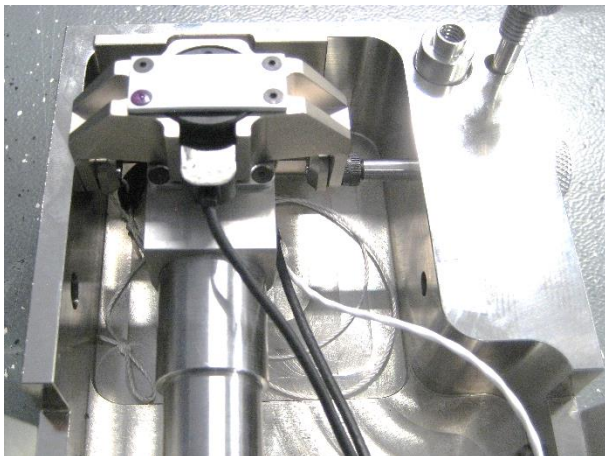

Figure 2 IF-367, IF-368, IF-371: use short Centre Pin
- Place the 2D IR-TRACC assembly on the Reference Fixture part # 11220 with potentiometer facing up according Figure 2.
- On IF-367, IF-368 & IF 371 use the short Centre Pin part# 11222 (Figure 2 Left).
- On IF-372 use the Spacer part# 11224 and the long Centre Pin part# 11223 (Figure 2 Right). Secure the spacer with an M6x10 Flat Head Countersunk Screw. Push the IRTRACC bracket pivot hole on the spacer spigot. Screw in the long Centre Pin on the opposite side into the fixture and align the spigot with the pivot hole of the IRTRACC bracket. Hand tighten the Centre Pin. Check there is no play and the bracket is flush with the spacer.